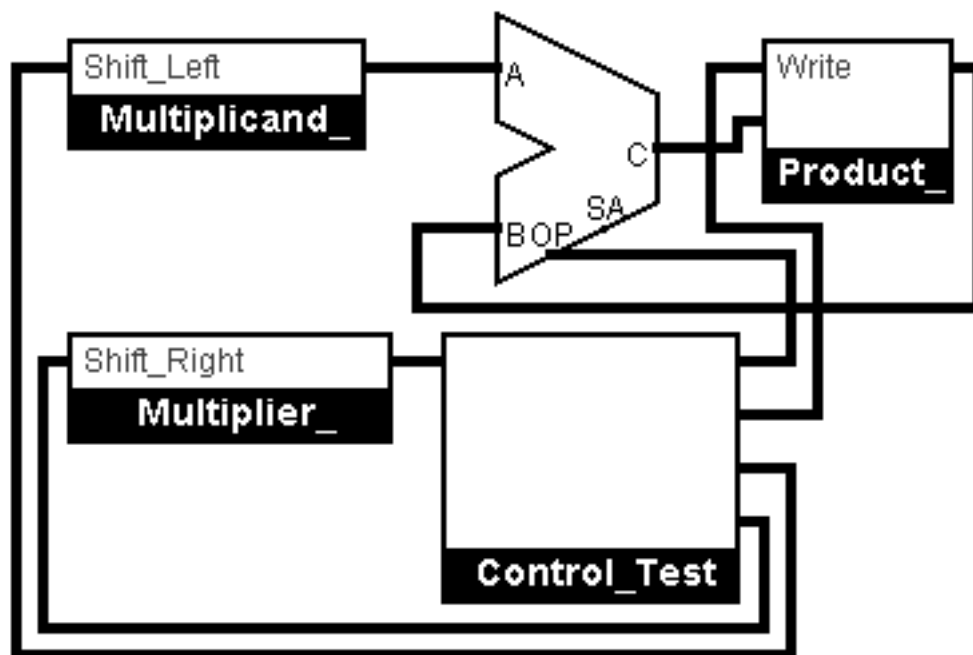

Figure 5: Multiplication Hardware with a 64-bit ALU
- datapath for Figure 5, using a 64-bit ALU: